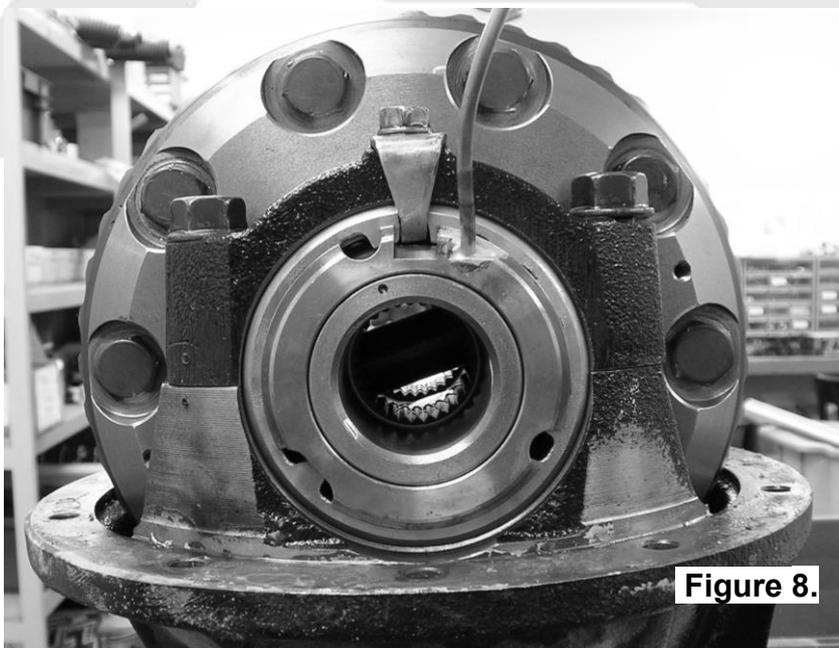

Figure 8.
- Rotate the seal housing until the square cutout lines up with the locking tab position at the center of the bearing cap, and then assemble the locking tab. (Fig.8.)